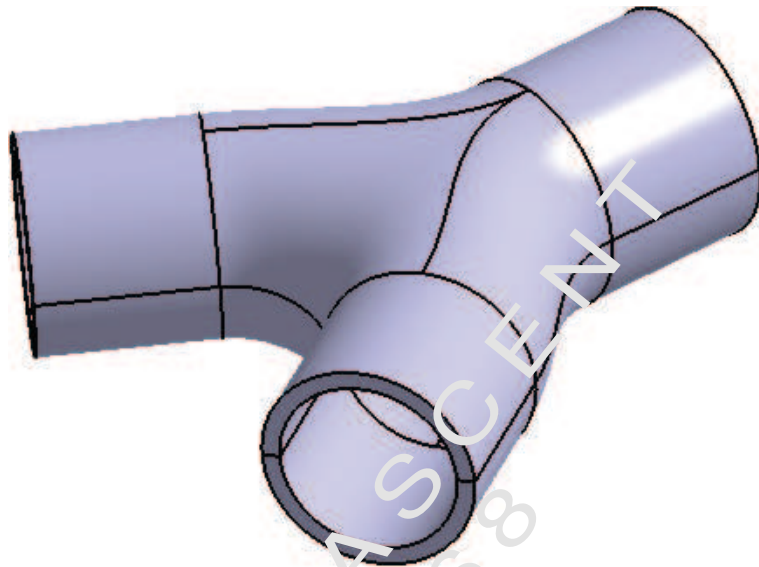

Figure 1-53
4. Select **Tools > Hide > All Geometrical Sets** to hide all wireframe and surface geometry that is still shown. The completed model displays as shown in Figure 1-53.